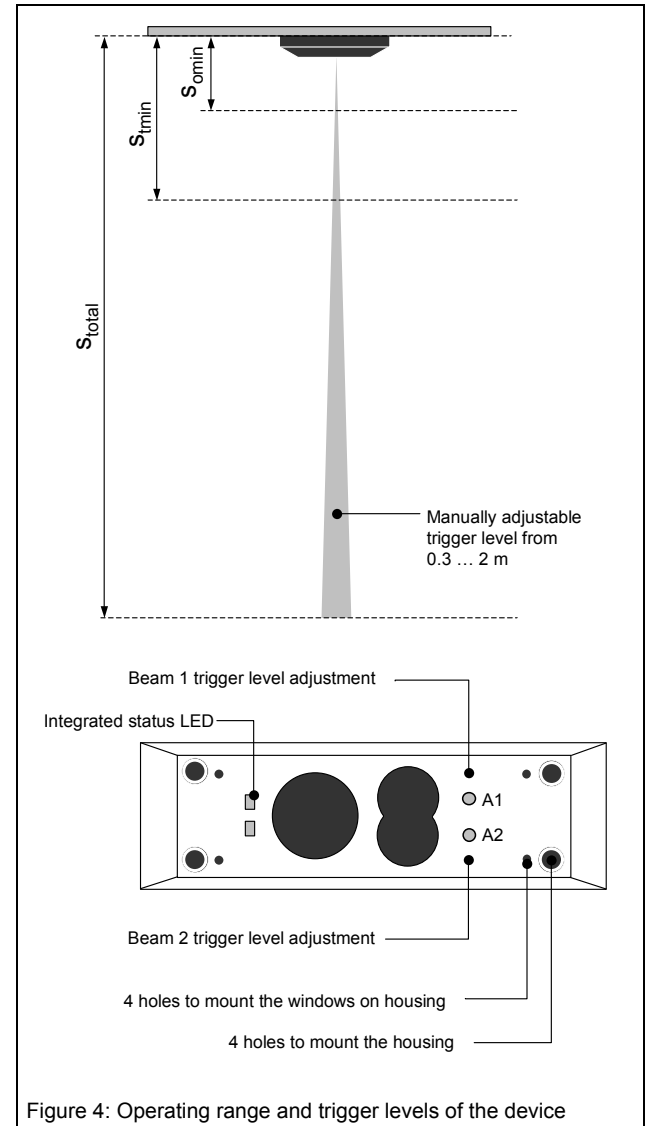

Figure 4: Operating range and trigger levels of the device
5. Set trigger level (see Figure 4)
6. Set trigger level (see Figure 4)